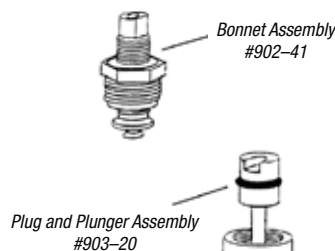
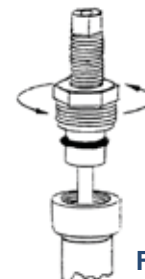

Figure 3
Figure 4
- Insert the plug and plunger assembly into the inlet of the valve until the upper plug (with the O-ring) extends past the bonnet portion of the body (see Fig. 4).
- Turn the new bonnet nut so it is in the middle of the upper threaded stem as shown in Fig. 3. Slide the locking groove of the lower stem onto the upper stem locking pin. Hold the top of the upper stem. Turn the bonnet nut counterclockwise down the stem so that the nut covers the top of the lower stem, preventing the lower stem from slipping off the locking pin (see Fig. 4).